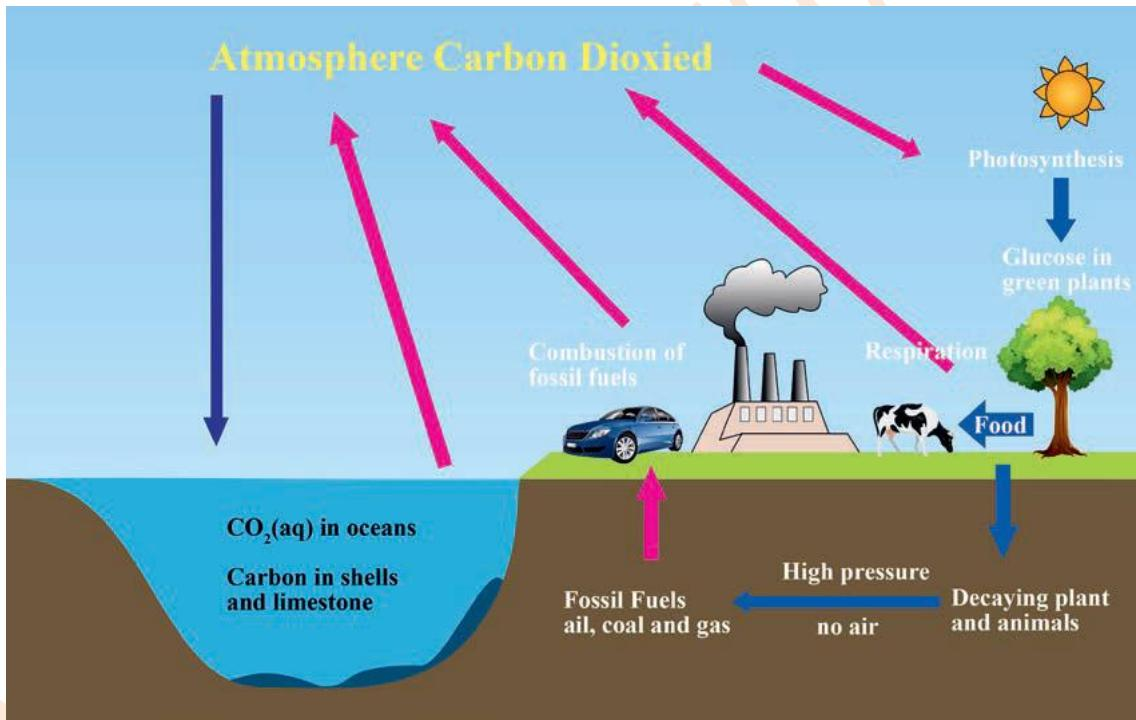

Figure 5.7: Carbon cycle
- The Earth's atmosphere contains 0.035% carbon dioxide (CO₂), and the biological environment depends upon plants to convert carbon dioxide into sugars, proteins and fats. As shown in Figure 5.7, green plants convert atmospheric carbon dioxide and water into glucose and oxygen in a process called photosynthesis.